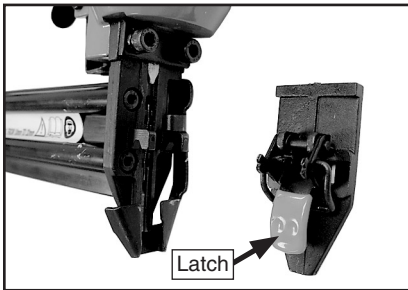

Figure 12. Nose guide cover removed from brad nailer.
- Push the latch on the nose guide cover down towards the nose until the catch releases; then remove the nose guide from the nailer, as shown in **Figure 12**.